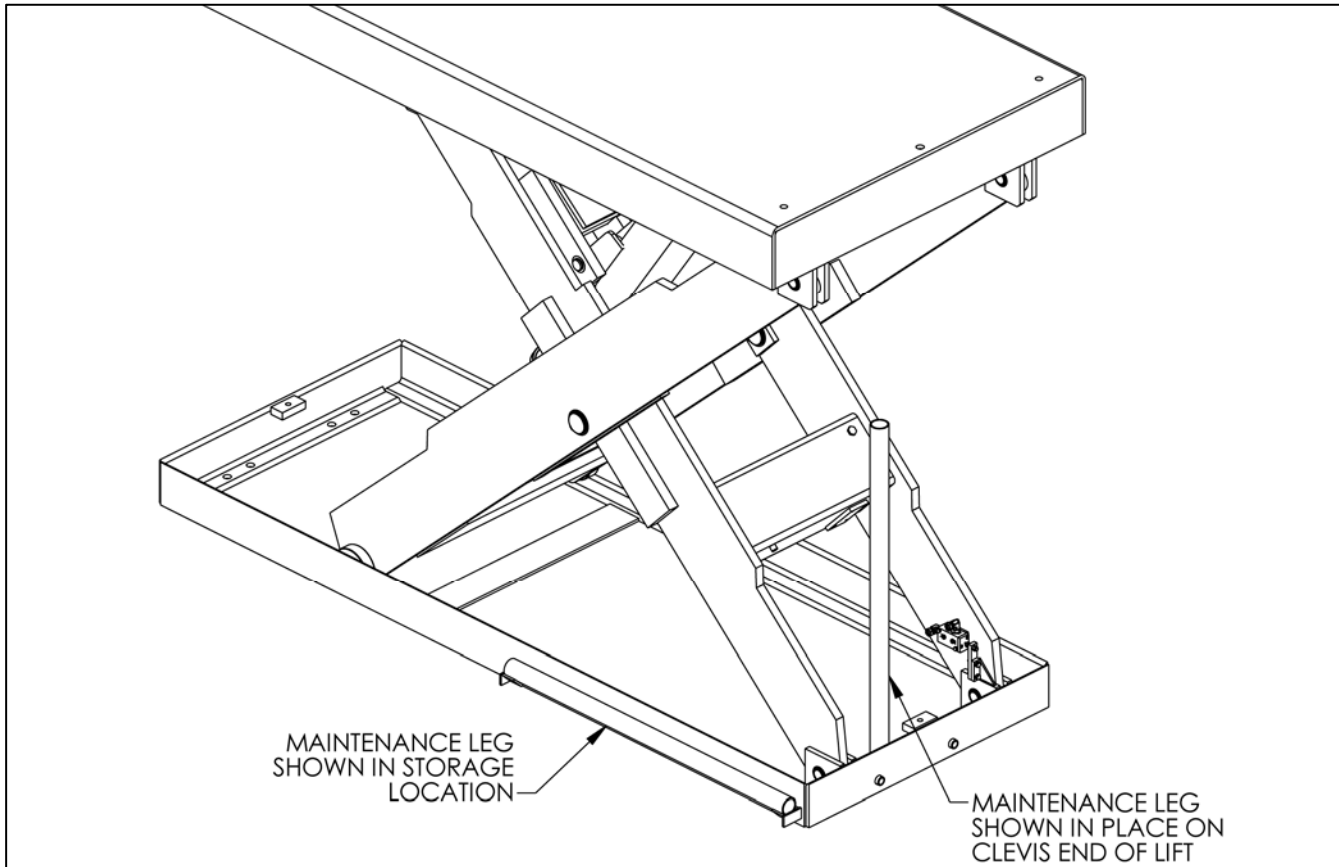

Figure 6.1
3. The lift will be provided with one (1) maintenance leg, stored on the outside of the base frame. The leg must be securely inserted into the leg sockets on top frame and bottom frame of lift (**See Figure 6.1**).